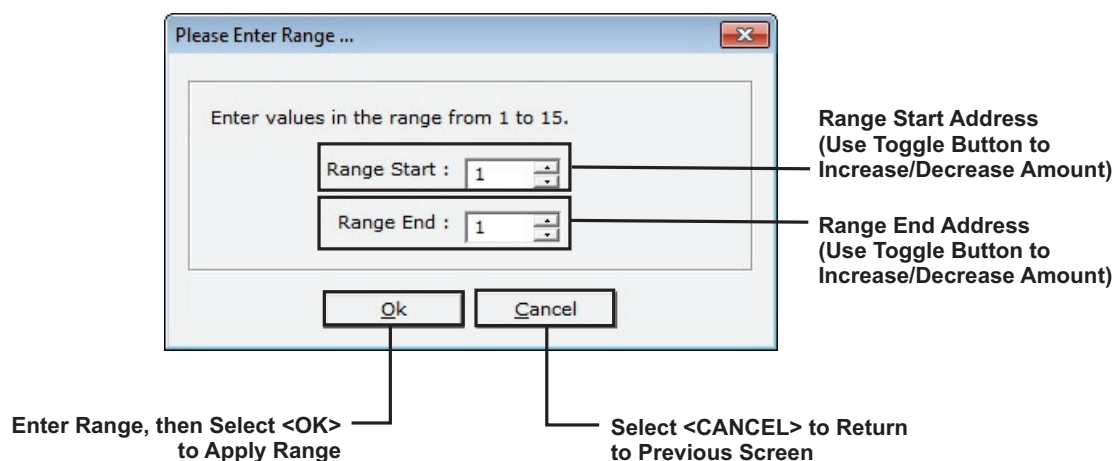

Figure 2-40. Peripheral-Devices Address-Range Selection
1. Select either the **<Add RDCM(s)>** or **<Add ATM(s)>**. Figure 2-40 displays.